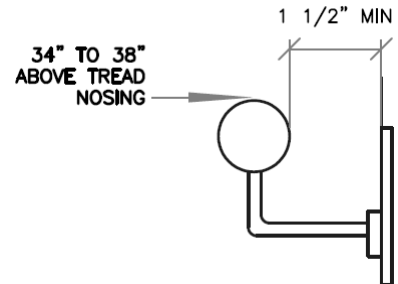

Figure 1. Handrail height
**Continuity:** Handrails shall be continuous for the full length of the stairs and handrails ends shall be returned or terminate in newel posts or safety terminals. Handrails shall have a space of not less than 1 1/2" between a wall and the handrail (See Figure 1).